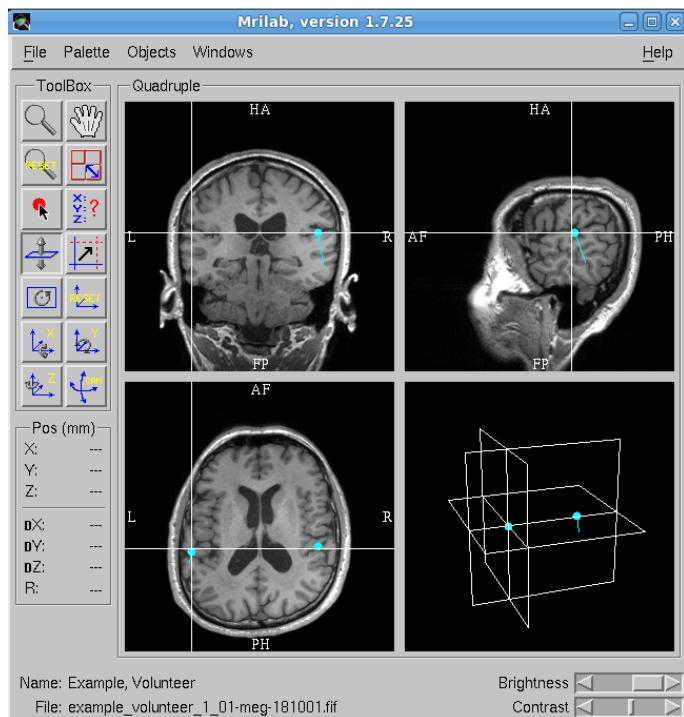

Figure 37: Importing the two-dipole fit locations to *Mrilab*.
- Select the dipoles from the list in the **Dipole fitting** window, **right-click -> MRI** (Figure 37).